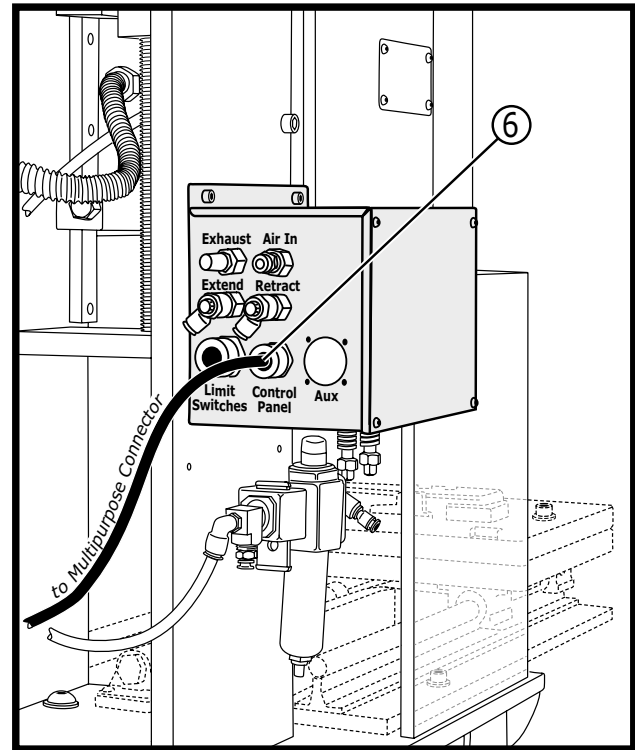

Figure 10-7 Optional Slide Kit Controller
The optional slide kit controller chassis is depicted at the right side of Figure 4-3. An enlarged section is shown here in Figure 10-7 with the rear connections labeled. The multipurpose cable is identified as ⑥. The front panel contains an air pressure gauge and an adjustable regulator. They can be seen at the left side in Figure 5-1. The pressure gauge and regulator for the pneumatic slide table are the same as those for the press, which are mounted on the front of the main control panel. The Slide kit controller comes with the optional slide kits. Appendix C lists describes the slide kits.